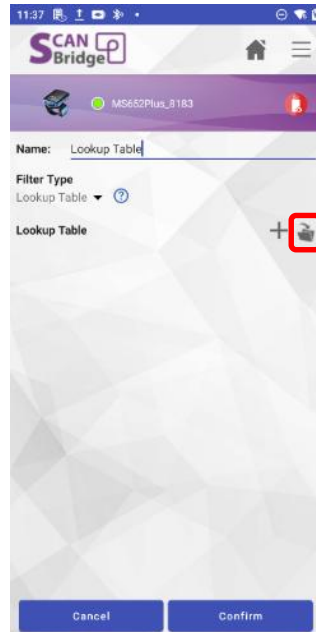

Figure 7.4.3
- User can import text file which contain the data to be matched in to Lookup Table by tap on the folder icon (Figure 7.4.3)